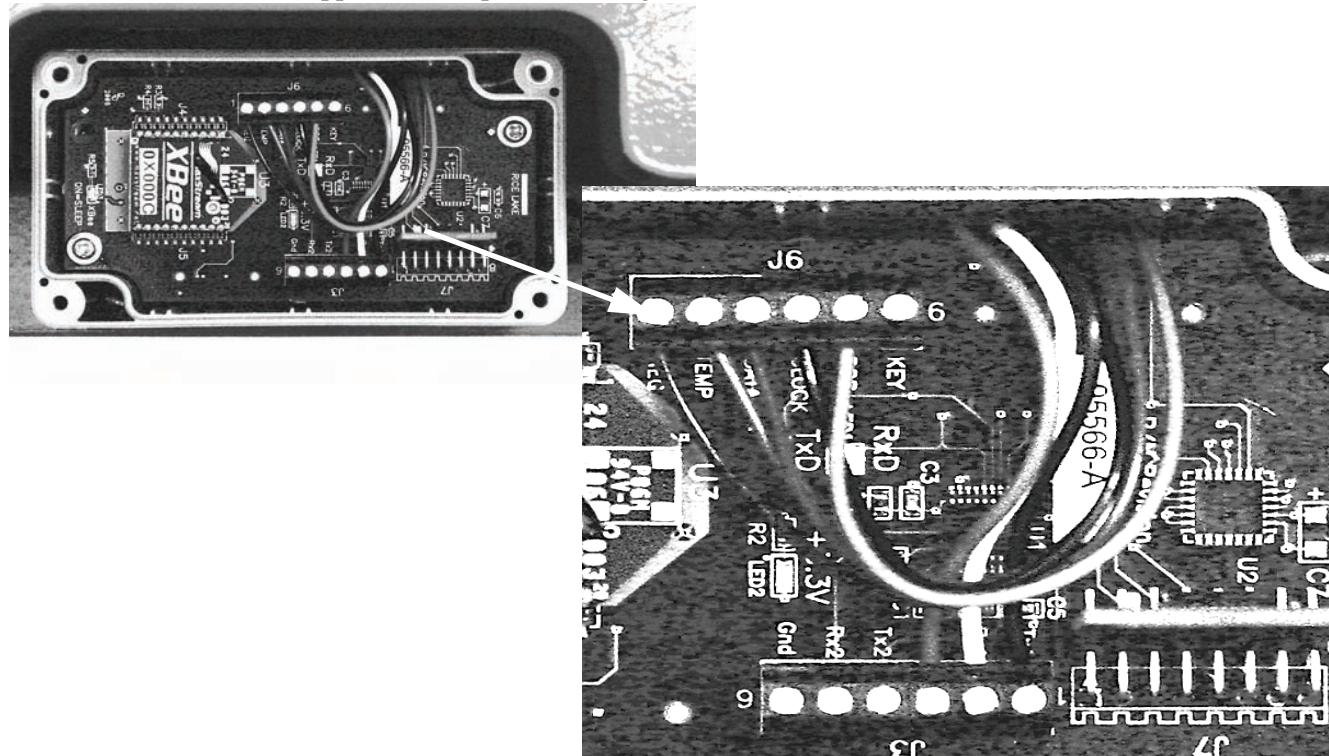

*Figure 3-5. Bottom Board Wiring*
9. Reconnect the wires to the bottom board per Figure 3-4, Figure 3-5, and Table 3-1 listed below.